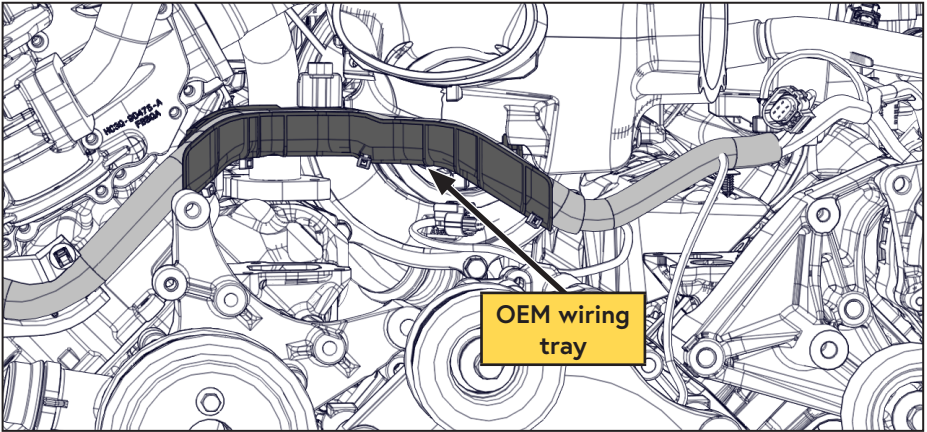

Figure 5 — OEM wiring tray
- Cut the cable ties securing the OEM wiring bundle to the wiring tray. Use a 10 mm socket to remove the wiring tray (Figure 5).